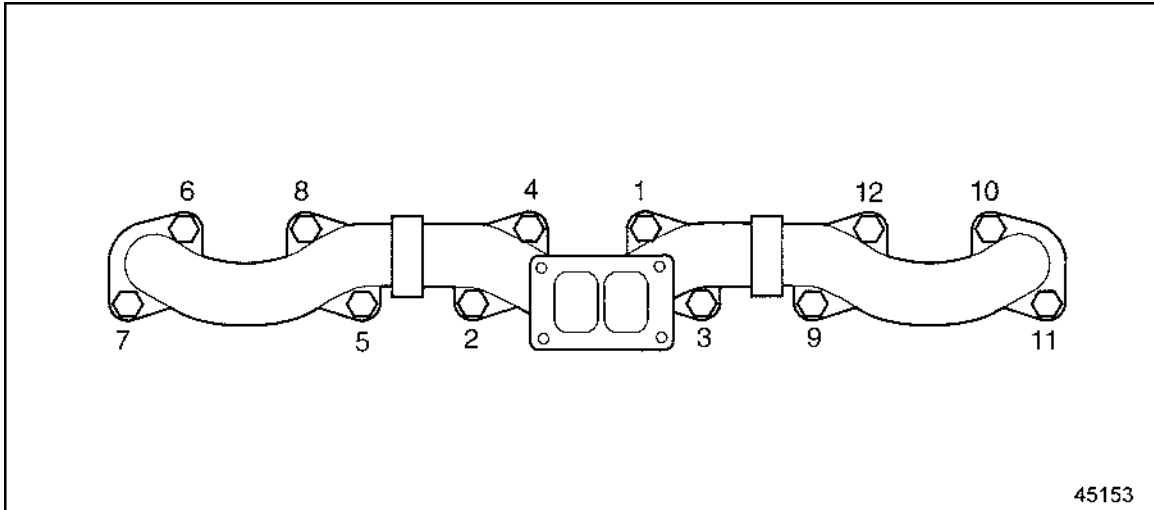

Figure 2 Torque Sequence for Exhaust Manifolds
3. Install six exhaust manifold guide studs, J 36107, into the cylinder head in locations 6, 8, 4, 1, 9, and 11 to hold the three exhaust manifold gaskets in the correct position and facilitate manifold installation. See Figure 2.
6. Install and slightly tighten the mounting bolts and spacers in locations 7, 5, 2, 3, 12, and 10. The load should be enough to hold the exhaust manifold assembly in place when the guide studs are removed. See Figure 2.
9. Install the remaining manifold bolts and spacers to the holes from which the studs were removed. Torque all bolts to 58-73 N·m (43-54 lb·ft) using the proper tightening sequence. See Figure 2.